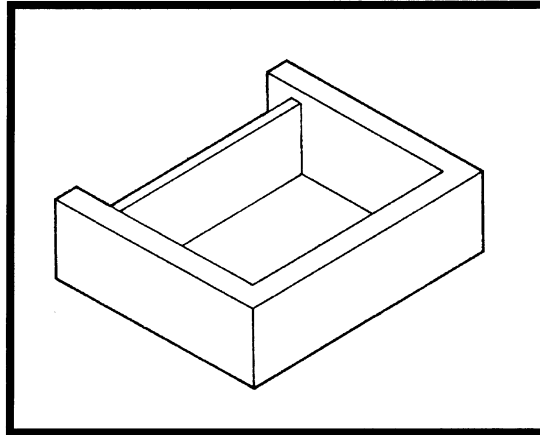

Figure 4.6
4.6 Figure 4.6 shows the front view of a drawer.
Copy Figure 4.6 and show the mechanism that keeps the drawer in position and enables it to slide.